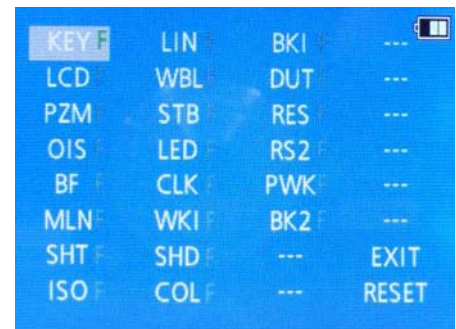

Fig.3-2
1. After pressing the [ DISP. ] button”, the LCD monitor displays the Flag status screen (Refer to Fig.3-2)